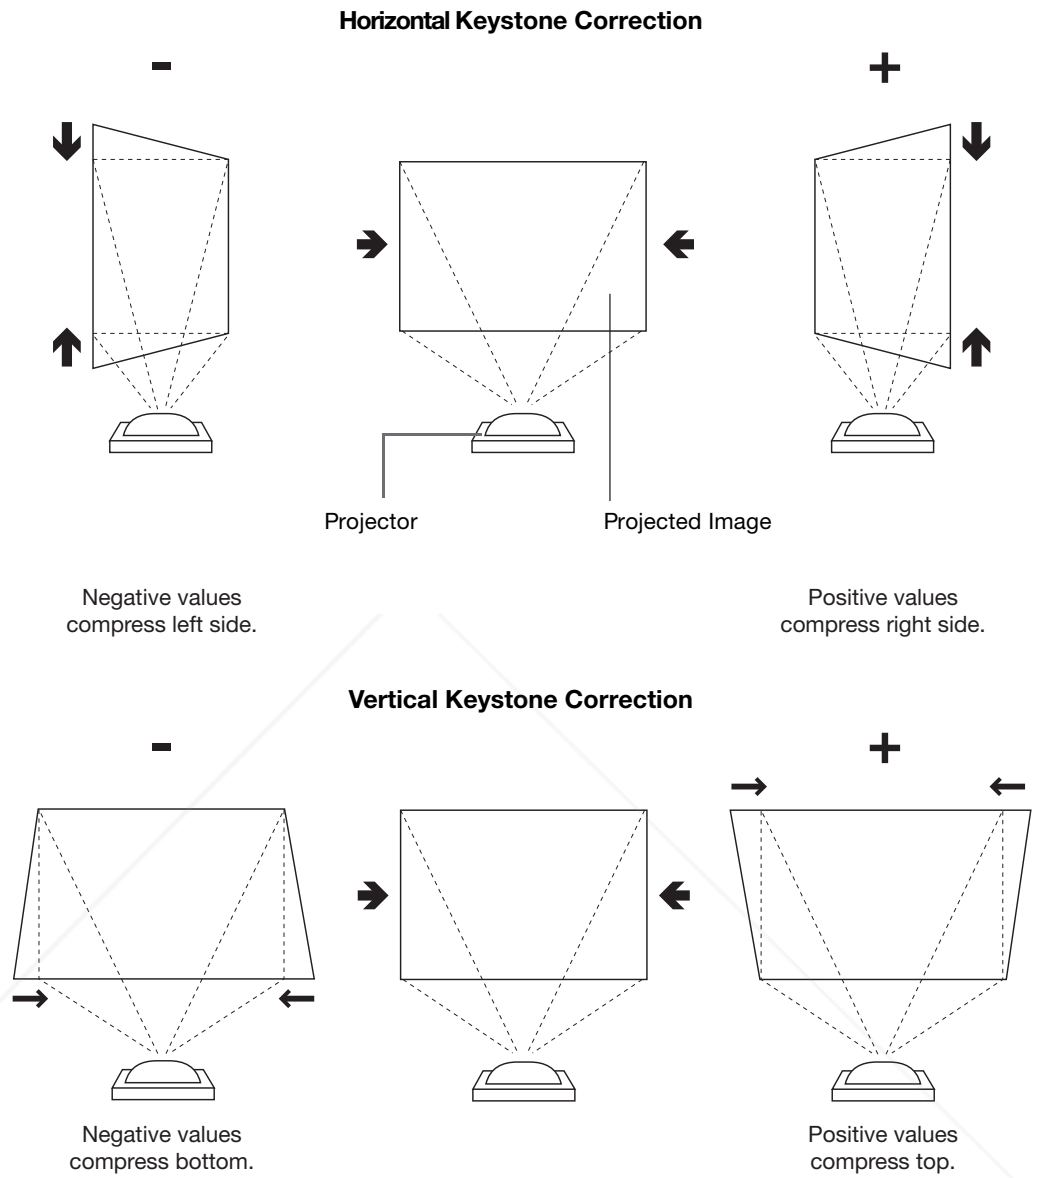

Figure 4-6. Keystone Correction
- **V. Keystone/H. Keystone:** To correct distortion resulting from the angle of projection, select V. Keystone or H. Keystone from the Keystone menu and use the ◀ or ▶ button to make the image rectangular. See Figure 4-6.